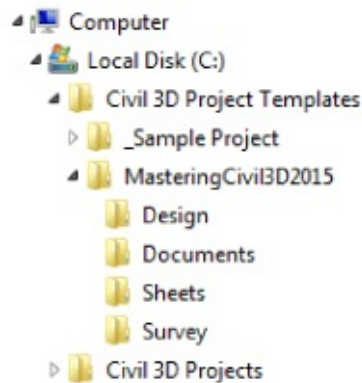

Figure 16.1 Folder structure and standard project files should be included in the project template.
3. Inside MasteringCivil3D2015, create subfolders called **Design**, **Documents**, **Sheets**, and **Survey**, as shown in Figure 16.1.